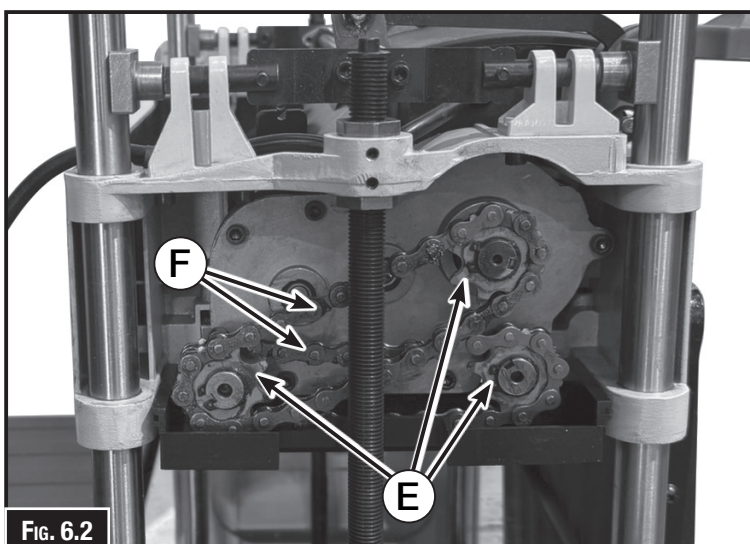

FIG. 6.2
5. Place a light coat of multi purpose grease on the teeth of the gears (E) and a light coat of spray lubricant on the chain (F). Do not over-lubricate. (Fig. 6.2)